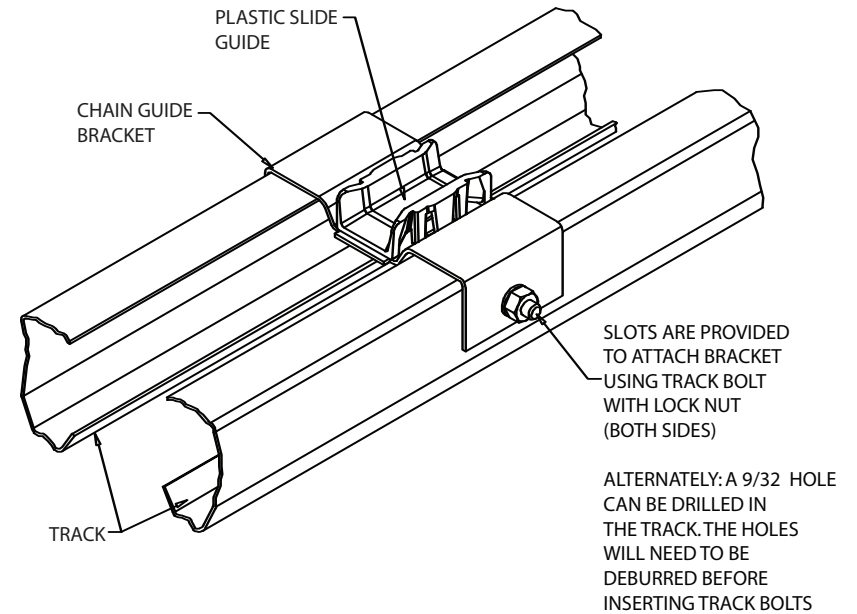

Figure 5
- 6) Attach the chain guide assemblies to the drawbar tracks using track bolts and locknuts. **Fig. 5.**